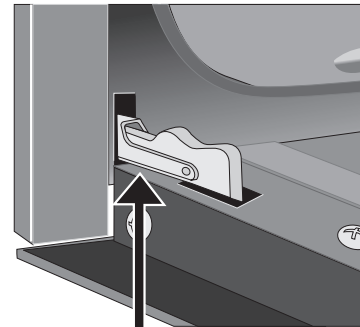
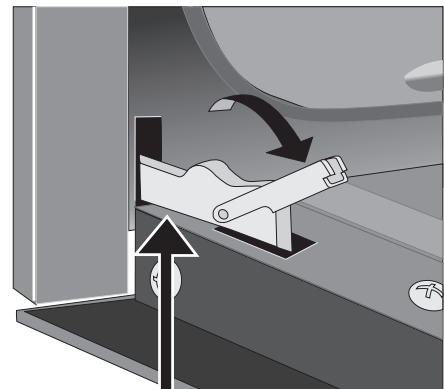

Figure 19: Door hinge locked
Figure 20: Unlocking the hinges
2. Pull up the lock located on each hinge support toward front of the oven until the lock stops. You may have to apply a little upward pressure on the lock to pull it up (Figure 19 and Figure 20).